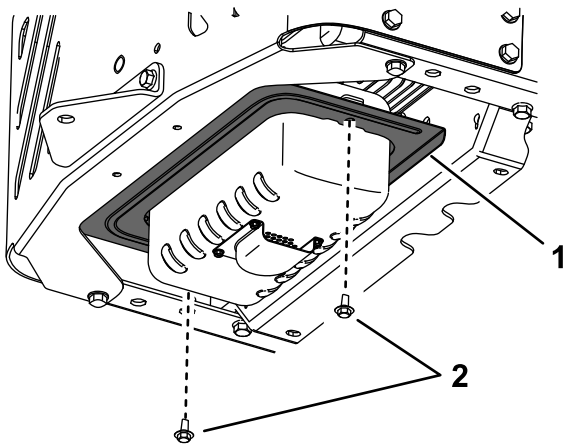

Figure 1
3. Remove and discard the 2 bolts and heat shield shown in Figure 1.